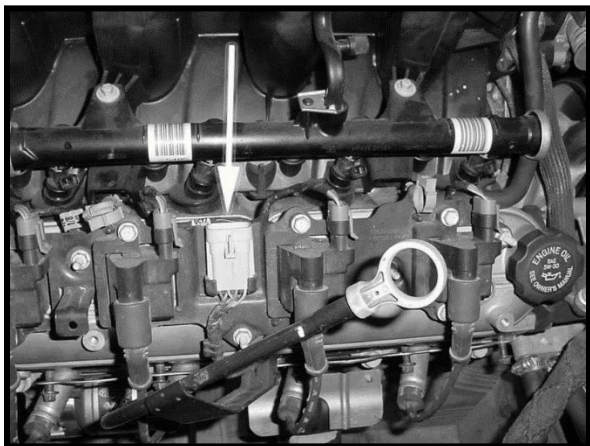

Figure 14 ECT Sensor
- This sensor can be found on the side of the head, front driver side, behind the head, front driver side, behind the alternator. It can also be seen to the left in **Figure 14**.